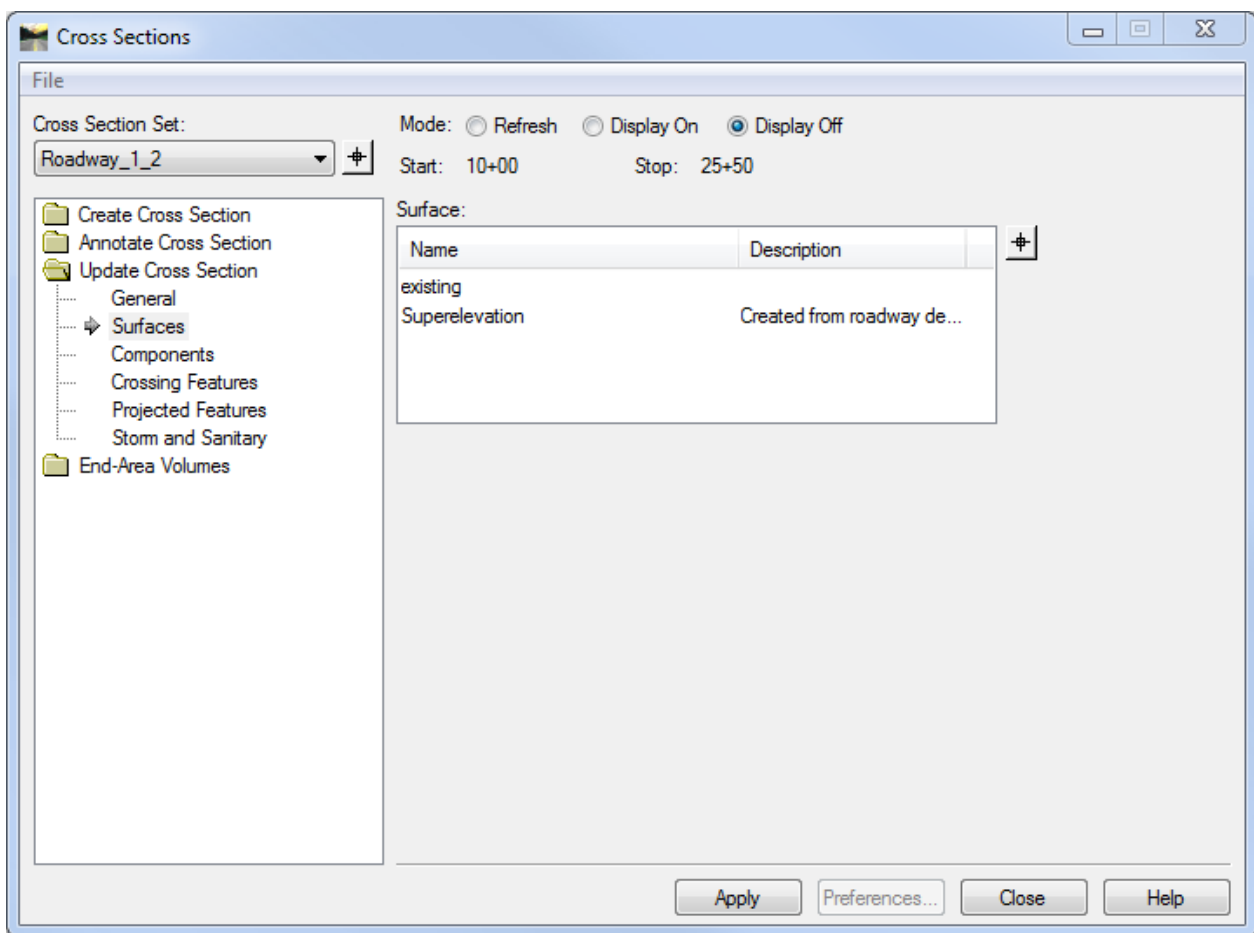

Figure 9-5 InRoads Update Cross Section Dialog Box
- A. Click on **Evaluation > Cross Section > Cross Sections**. Click on the **Update Cross Section** folder. Figure 9-5 shows the Update Cross Section dialog box.